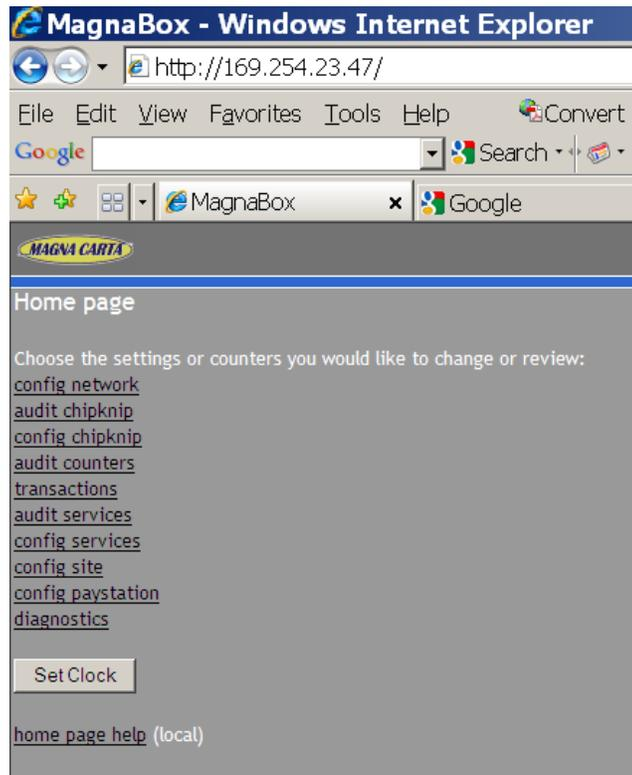

Figure 4-8 Home page of a Magnabox
6. Press **<Enter>**. You will see the home page of your Magnabox (Figure 4-8).